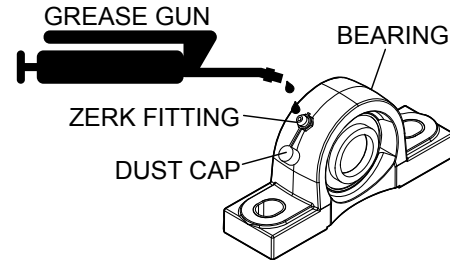

Figure 11. Bearing Lubrication
- Remove dust cap located on top of new cross shaft bearing (Figure 11).